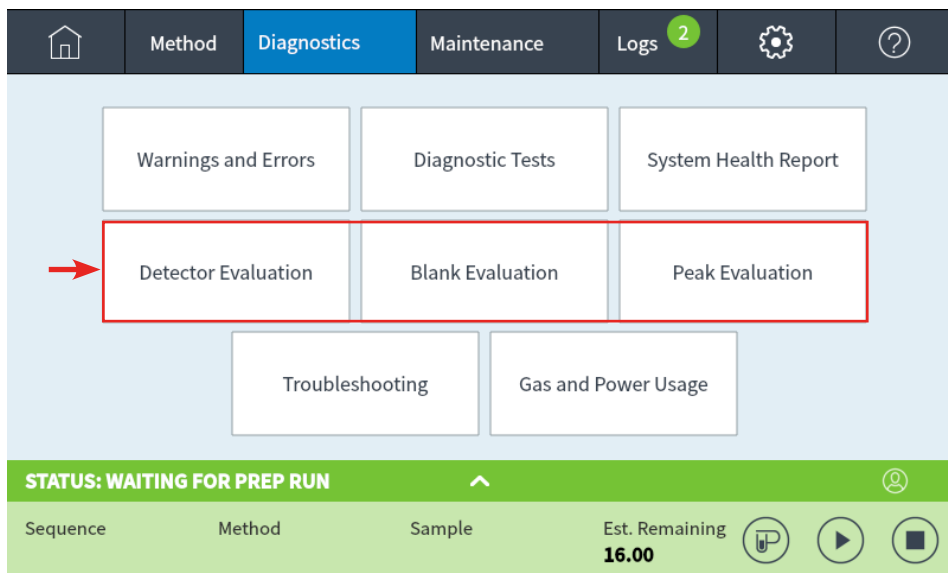

Figure 7. Generating a chromatographic trend plot from the touch screen interface: location of Detector Evaluation, Blank Evaluation, and Peak Evaluation.
- For a chromatographic trend plot, click **Detector Evaluation, Blank Evaluation, or Peak Evaluation > Chromatographic Trend Plot** (Figures 7 and 8).